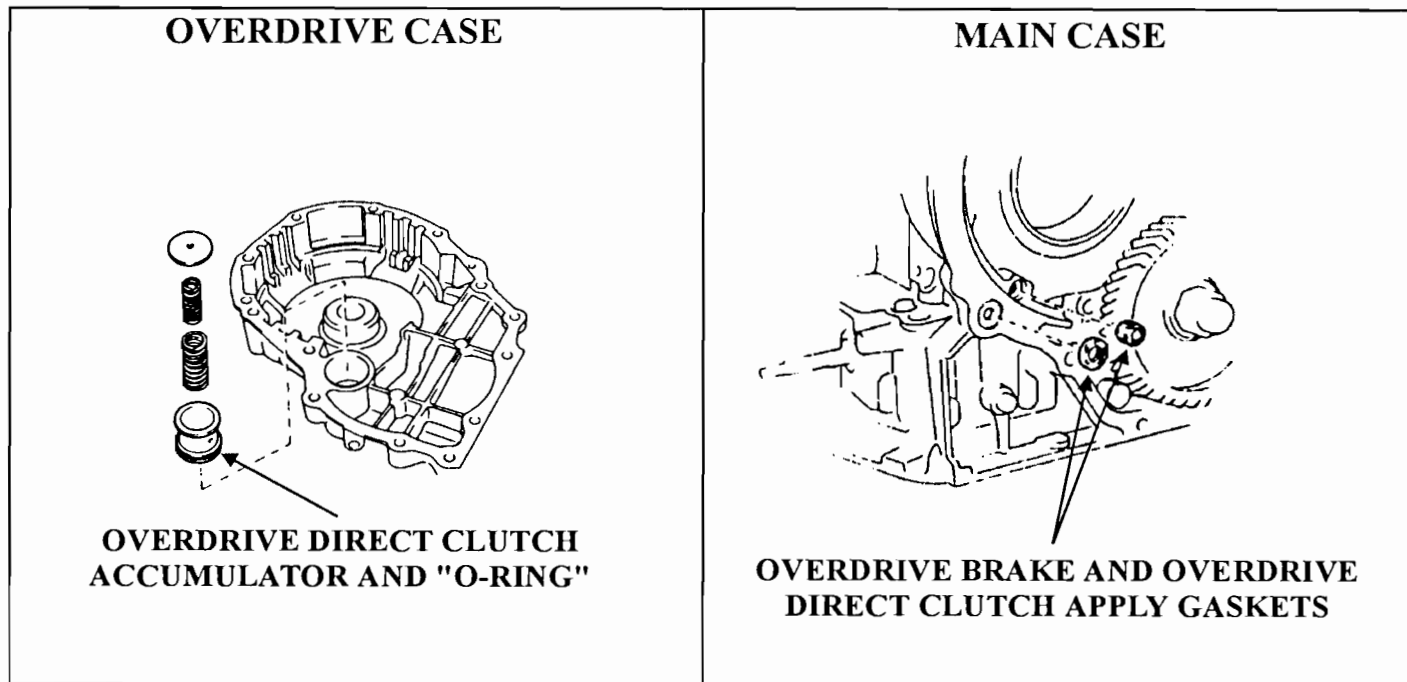

Figure 73
- Check Overdrive Direct clutch accumulator "O-ring" and ensure a snug fit when installed into its bore. (See Figure 73)
- Ensure that the Overdrive brake and Overdrive Direct clutch apply gaskets or plugs are installed between the main and Overdrive case. (See Figure 73).